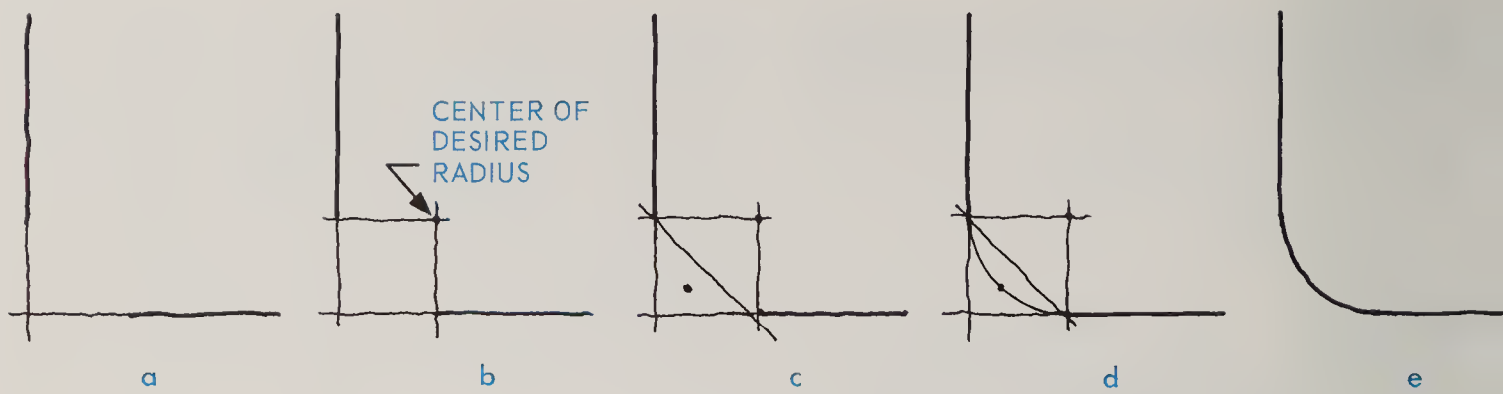

Fig. 4-9. Steps in sketching an arc.
1. Project the two lines until they intersect, Fig. 4-9(a).
2. Lay out desired arc radius from the point of the intersecting lines, Fig. 4-9(b).
3. Form a triangle by connecting these two points and locate the center point of the triangle, Fig. 4-9(c).
4. Sketch short, light strokes from point where arc is to start on vertical line through center point to point on horizontal line where arc ends, Fig. 4-9(d).
5. Darken the line to form one continuous arc which should join smoothly with each straight line and erase construction lines, Fig. 4-9(e).